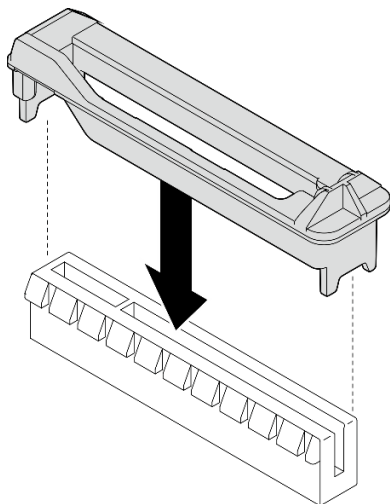

Figure 107. x8 PCIe slot holder
- To replace an existing PCIe adapter, skip to the procedure of installation: Figure 107 “Installation procedure of a HL PCIe adapter” on page 132